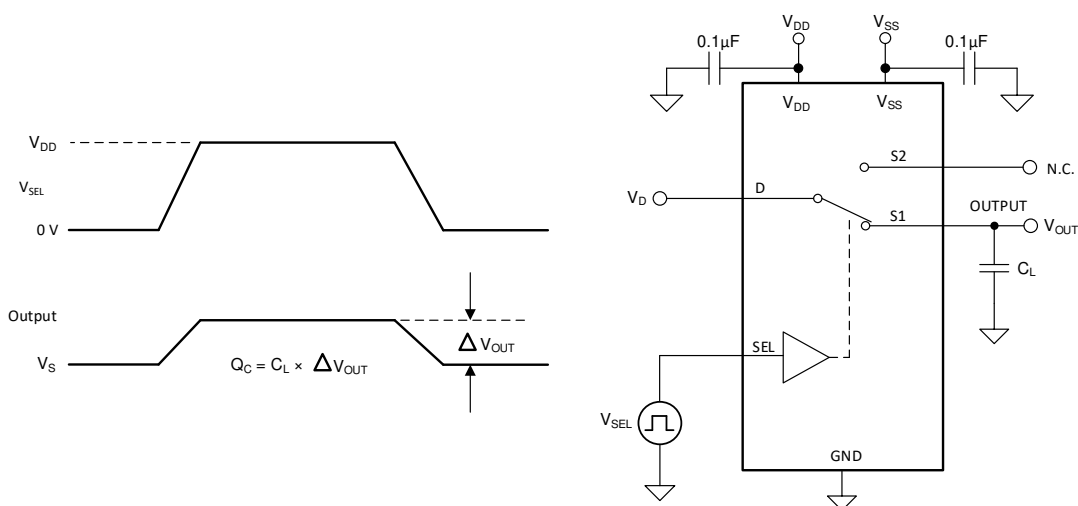

图 7-6. Charge-Injection Measurement Setup
The TMUX1248 has a transmission-gate topology. Any mismatch in capacitance between the NMOS and PMOS transistors results in a charge injected into the drain or source during the falling or rising edge of the gate signal. The amount of charge injected into the source or drain of the device is known as charge injection, and is denoted by the symbol Q_C . 图 7-6 shows the setup used to measure charge injection from Drain (D) to Source (Sx).